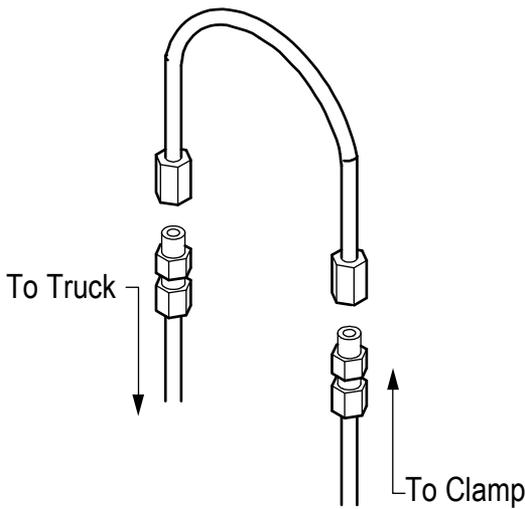

Figure 3-2, Jumper Line
2. Purging can be accomplished by installing a jumper line and operating each hydraulic function (clamp, rotate and side shift if equipped) in each direction for a minimum of 30 seconds. (Figure 3-2) Hoses should meet or exceed SAE100 RI Type AT, with maximum working pressure of 3,000 psi for all attachment functions.